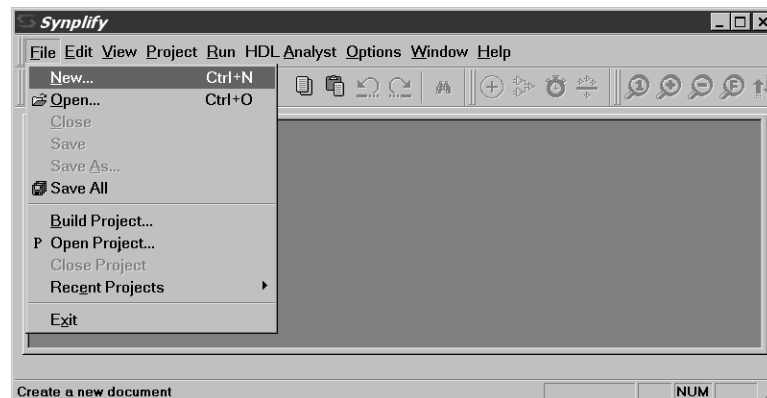

Figure 5-1: Create a New Document
1. Start Synplify and choose File > New (Figure 5-1), or click the new file icon on the toolbar. The Create a new document dialog appears.